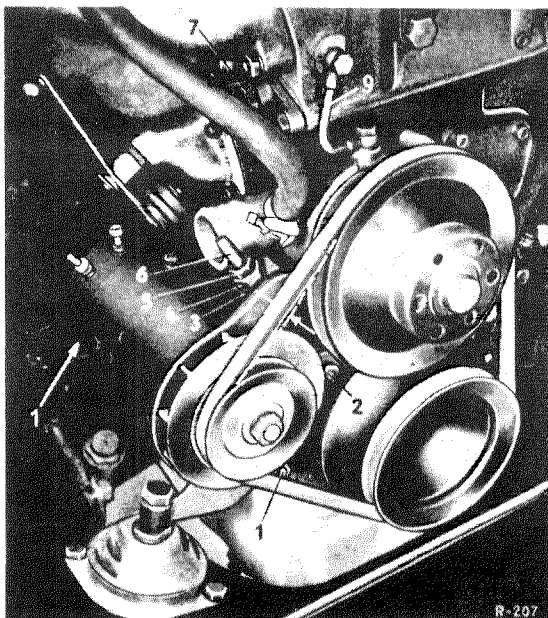

Fig. 01-4/40
The usual by-pass line (8) (Fig. 01-4/40) is not installed in Model 190 SL, since the line heating the intake pipe also serves as a by-pass line. The threaded union (10) in the water pump housing has been replaced by a screw plug (Fig. 01-4/41). Furthermore, the hub pressed onto the water pump shaft and to which the pulley and the fan are fixed has four threaded bores, whereas on all other models pulley and fan are fastened with only three screws.